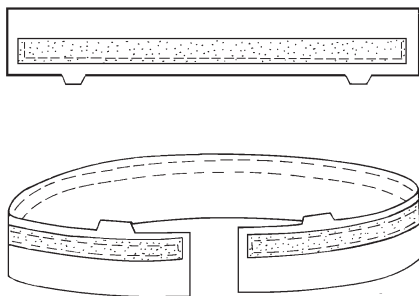

Fig. 12-1 Machine-baste the interfacing to the notched edge of the waistband. Then trim it close to the stitching line.
3. Machine-baste the interfacing to the waistband $\frac{1}{2}$ inch (1.3 cm) from the notched edge. Begin and end stitching $\frac{1}{2}$ inch (1.3 cm) from each end of the band. Machine-baste the interfacing to the remaining edges of the band $\frac{1}{2}$ inch (1.3 cm) from the cut edges. Trim the interfacing up to the stitching line. (Fig. 12-1) (Refer to Skill Sheet 3 for instructions on using fusible interfacing.)